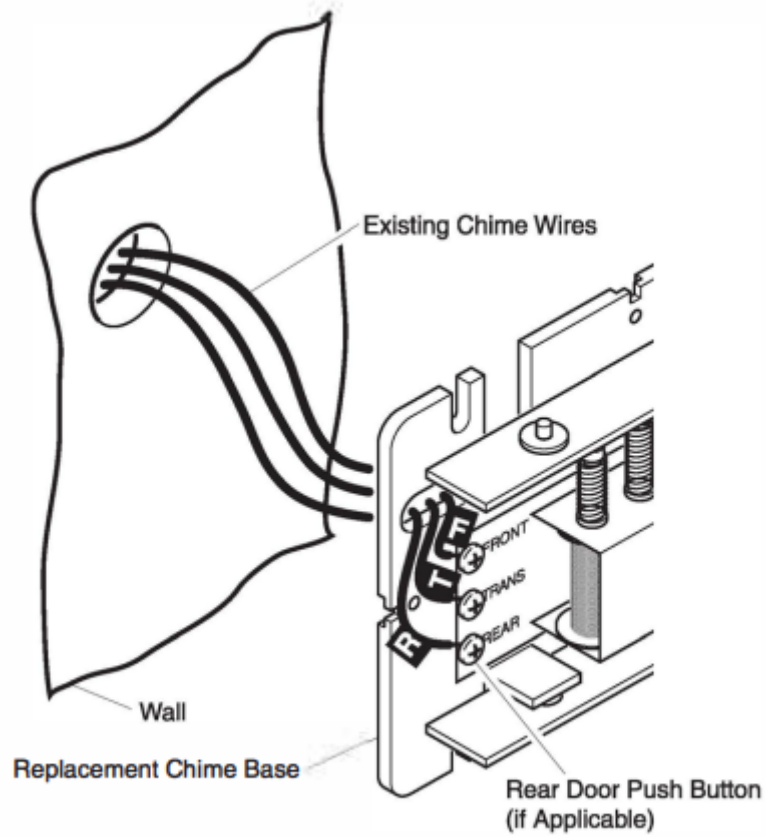

Figure 2 - Mechanical Chime Wiring
9. Connect wire "F" to screw terminal marked "FRONT". Connect wire "T" to screw terminal marked "TRANS", Connect wire "R" to screw terminal marked "REAR"* (See Figure 2).